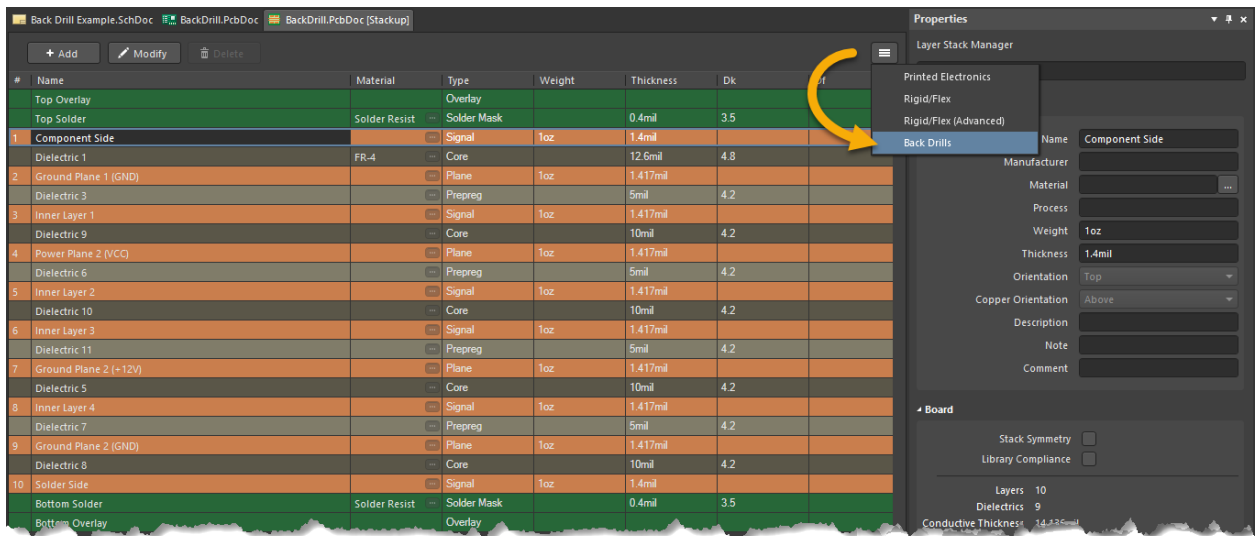

Figure 1. LSM showing 10 Layers and the Back Drills button
5. From the *Layer Stack Manager* window click on the **Features Button**, then the **Back Drills** button, Figure 1.